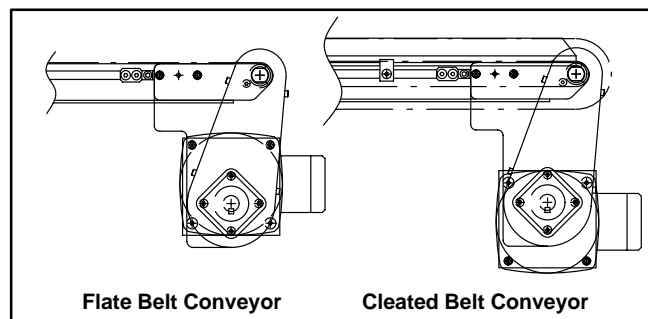

Figure 2
**NOTE:** Gearmotor position on Flat Belt conveyor shown below left (Figure 2). Gearmotor position on Cleated Belt conveyor shown below right (Figure 2).